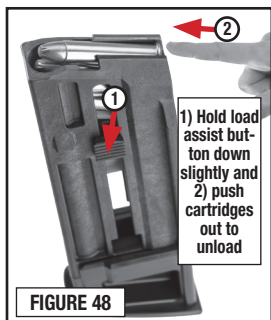

FIGURE 48
- (FIGURE 48) shows the user pushing the rounds forward, out of the 10-round capacity magazine to unload. Holding the load assist button down slightly should make it easier to slide the cartridges out.